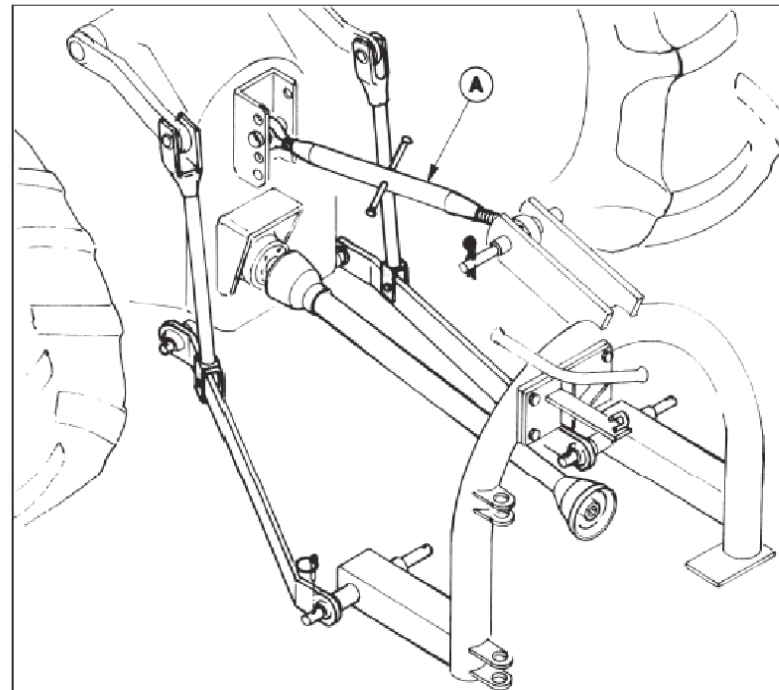

FIG. 6.1
Appoggiare la barra in piano ed agire sul braccio terzo punto (A) (Fig. 6.1).
Apoyar la barra en horizontal y regular el brazo tercer punto (A) (Fig. 6.1).
Lower sickle bar mower on ground and use upper third point hitch arm (A) Fig. 6.1 until the desired cutting height is obtained.
Appuyer la barre à plat et agir sur le bras troisième point (A) (Fig. 6.1).